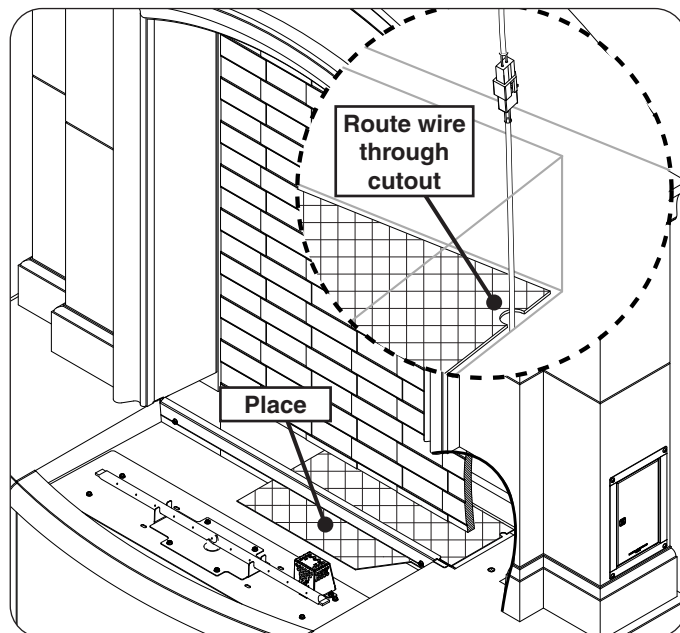

Fig. 31-1 Place right screen
1. Locate the supplied screens. Place the right screen as shown in Fig. 31-1.